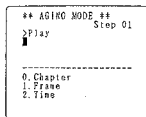

Fig. 12
2) Press the [CHAPTER/FRAME] key. Press [1] when the menu is displayed. (Fig. 12)